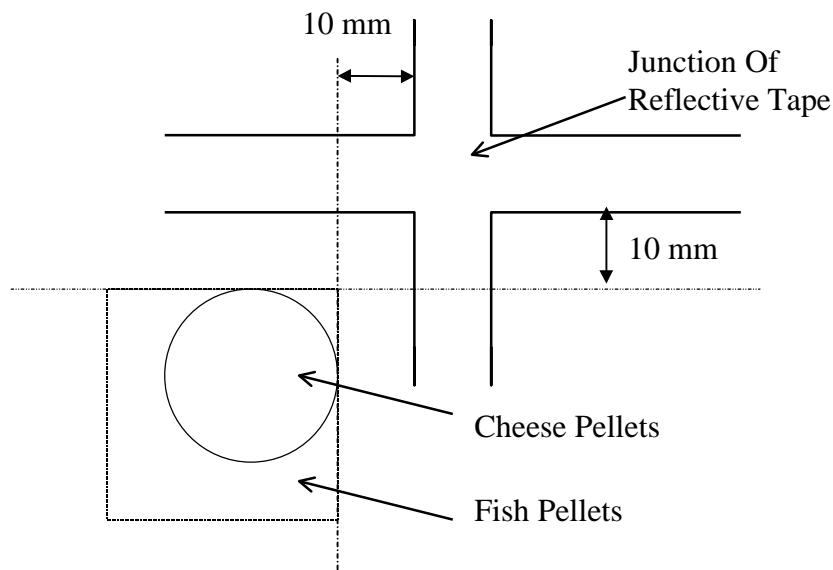

Figure 2: Cat and Mouse - Placement of Food Pellets
- 4.2 The Fish and Cheese are to be placed at any corner of the squares formed by the tracks. The gap of separation of the track and the Fish-edge or Cheese-edge, should be 10 mm. See Fig.2.